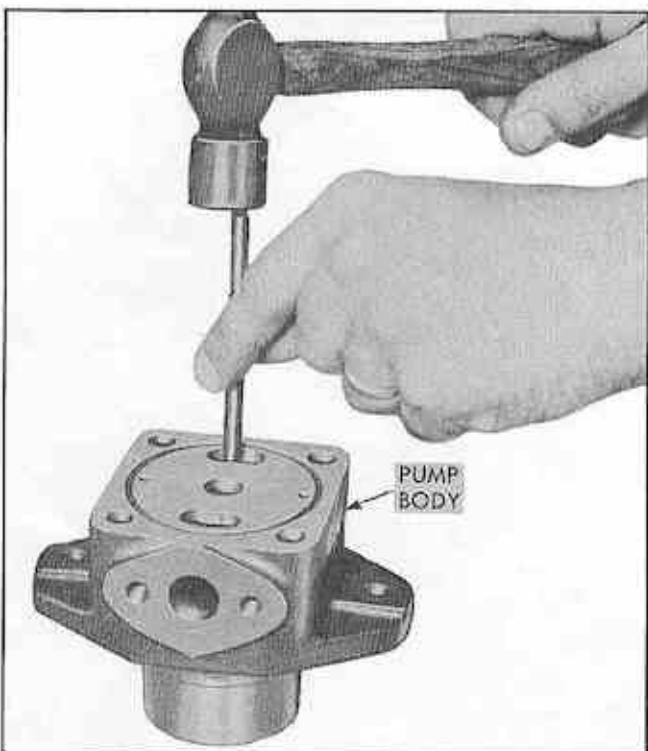

Fig. 103 Removing Oil Seal from Pump Body
15. Remove oil seal from body with a long punch inserted through large holes in machined face of the pump body (Fig. 103).